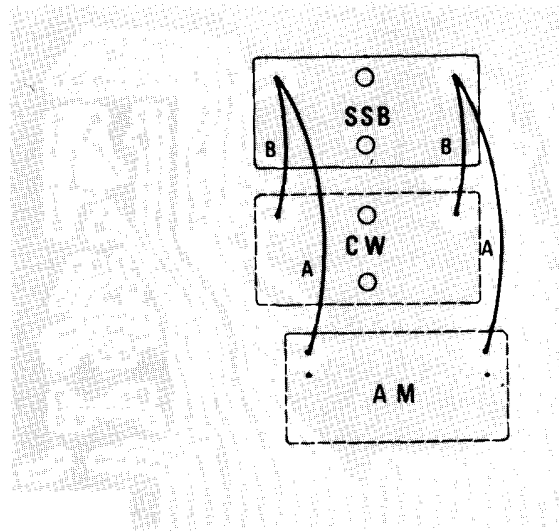
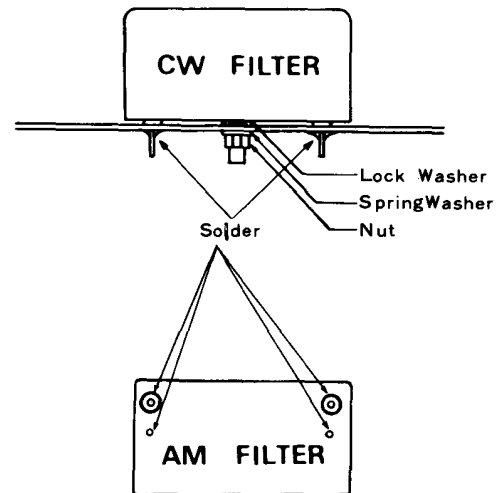
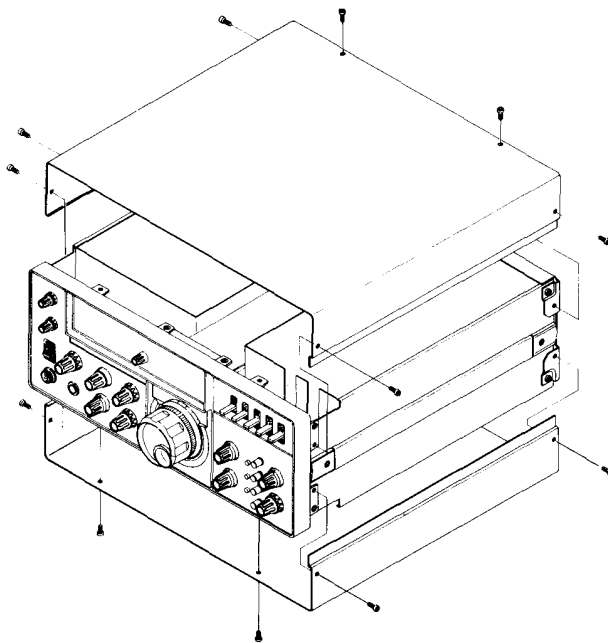

Figure 7.
Figure 8.
Figure 9
- (1) Remove the top case by removing the mounting screws, as shown in Figure 9.
- (2) Remove the FILTER Unit from its mounting position, shown on page 23.
- (3) For CW filter installation, remove jumpers "B" from the foil side of the board. For AM filter installation, remove the jumpers marked "A" in Figure 7.
- (4) Mount the filter to be installed in the position shown in Figure 7. The CW filter is mounted using a nut, lockwasher, and spring washer. The nut should be tightened so that it is snug, but excessive torque should not be applied. Refer to Figure 8 for mounting details.
- (5) When the CW filter is installed, the CW-W position will select CW operation using the SSB filter, while the CW-N position will select operation using the CW filter. The CW filter will also be switched into the line for FSK operation.
Remove the top cover of the transceiver, as shown in Figure 9.